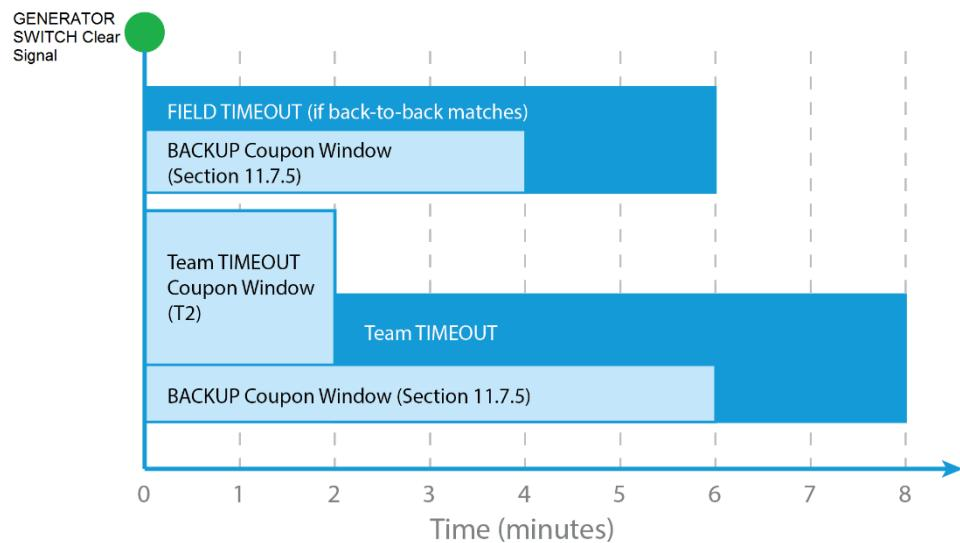

Figure 11-4 TIMEOUT and BACKUP Coupon Timeline
T3. If an ALLIANCE wishes to use their TIMEOUT, the ALLIANCE CAPTAIN must submit their TIMEOUT coupon to the Head REFEREE within two (2) minutes of the GENERATOR SWITCH Clear signal preceding their MATCH. If there is no preceding MATCH, the TIMEOUT coupon must be submitted no later than two (2) minutes before the scheduled MATCH time. The TIMEOUT will begin two (2) minutes after the GENERATOR SWITCH Clear signal (i.e. at the end of the Team TIMEOUT Coupon Window depicted in Figure 11-4)